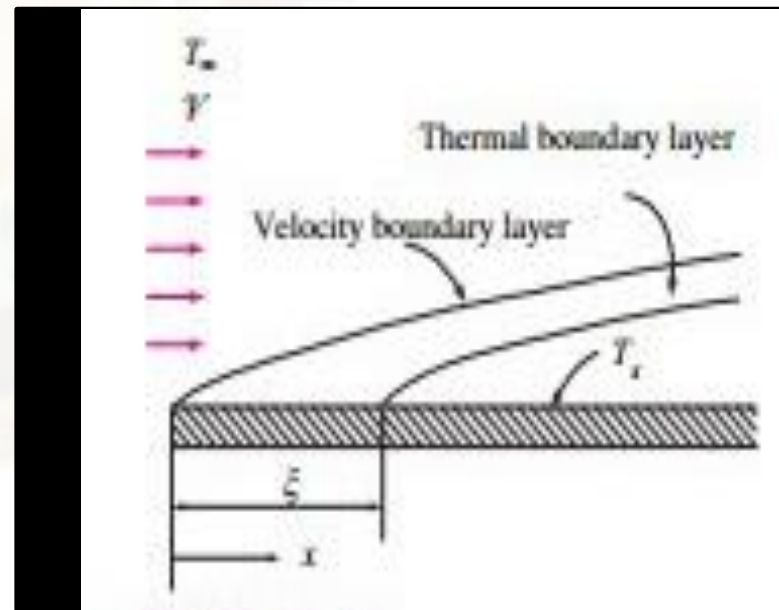

Fig 6: Flow over a flat plate with an unheated starting length
- In cases where the starting section is unheated as shown in Fig 6, which means no heat transfer at  $0 < x < \xi$